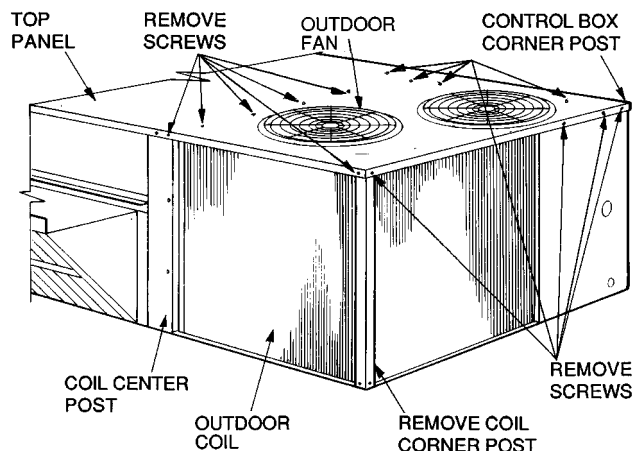
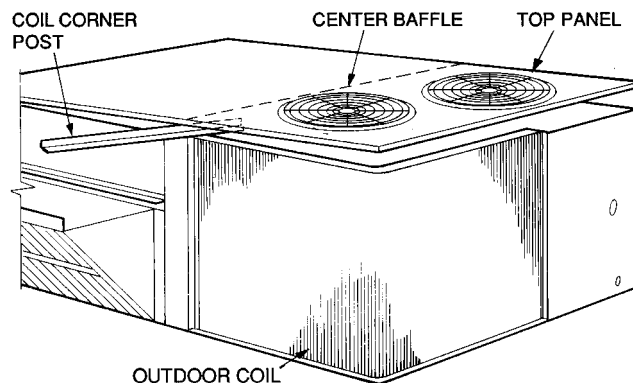

Fig. 30 — Cleaning Outdoor Coil
Fig. 31 — Propping Up Top Panel
3. Remove outdoor coil corner post. See Fig. 30. To hold top panel open, place coil corner post between top panel and center post. See Fig. 31.